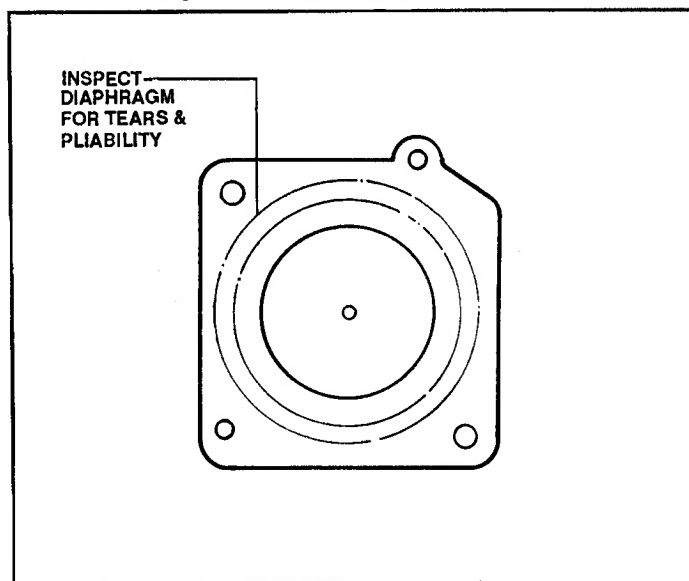

FIGURE 19
2. To inspect the metering portion of the carburetor, remove the two (2) cover retaining screws. Inspect the diaphragm for tears and pliability. Ensure that the cover vent hole is open and the cover is in good condition. Also, examine the metering disc for breaks. See Figure 19.